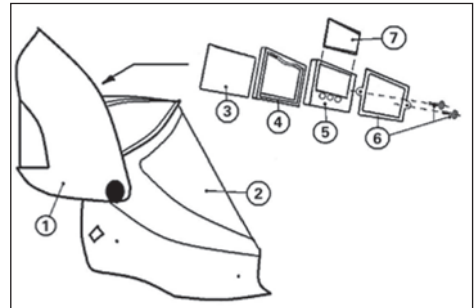

Fig. 2
To change the outer protection (3) lens the filter must be removed by unscrewing the two retaining screws (6) from the inside of the helmet flip (1). The old protection lens can then be removed and the new lens inserted followed by the light seal cradle (4), Auto Darkening Filter (5), inner protection lens (7) and then the ADF retaining frame (6) before finally replacing the two retaining screws (see Fig. 2).